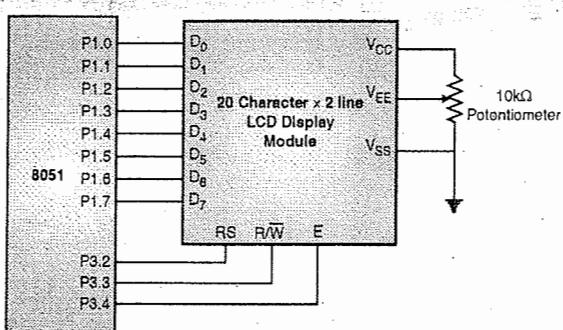

Fig. P. 2.7.3 : Interfacing 8051 to LCD module
Fig. P. 2.7.3 shows the interfacing diagram.
- Fig. P. 2.7.3 shows the interfacing of a 20 character × 2 line LCD module with 8051. As shown in Fig. P. 2.7.3 the data lines are connected to Port 1 of 8051. The control lines